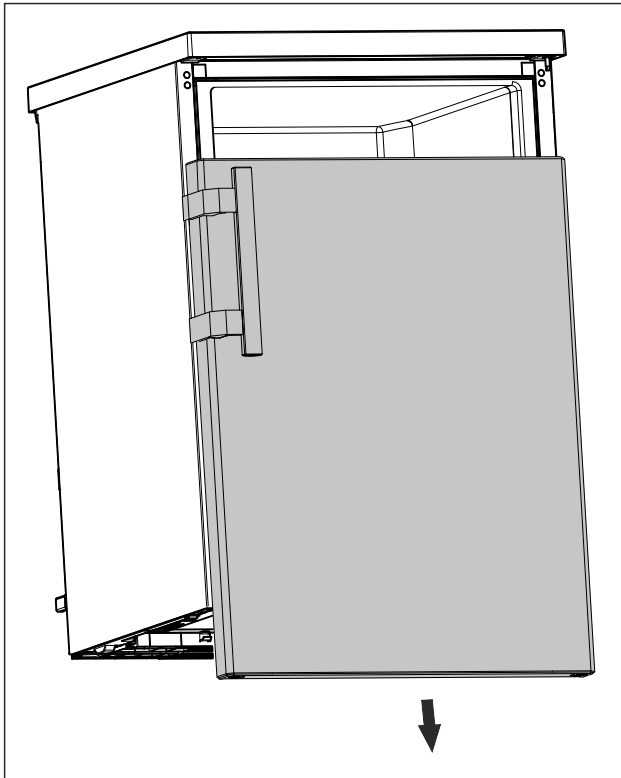

Fig. 16
- ▶ Remove the door downwards. (see Fig. 16)